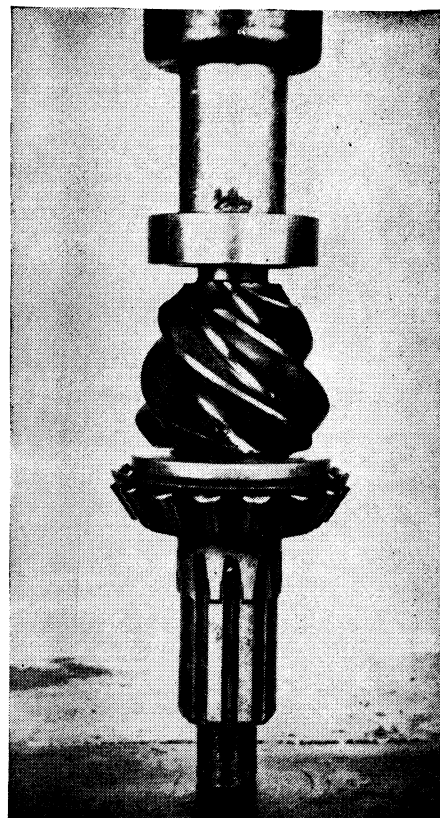

Fig. 81 Installing radial bearing on pinion shaft
1. Press rear thrust and radial bearings firmly against pinion shoulders with a suitable sleeve, Fig. 81.